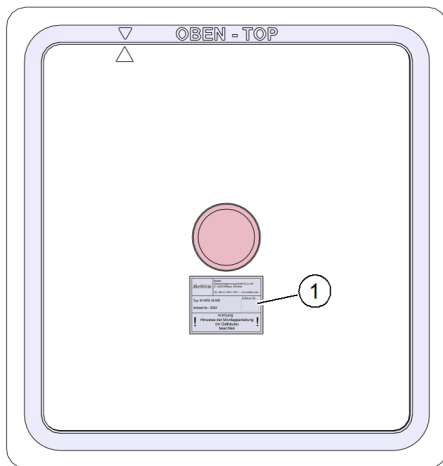

Fig. 2: Nameplate on the plaster cover
- beneath the red signal cover on the plaster cover (see item 1 in Fig. 2)